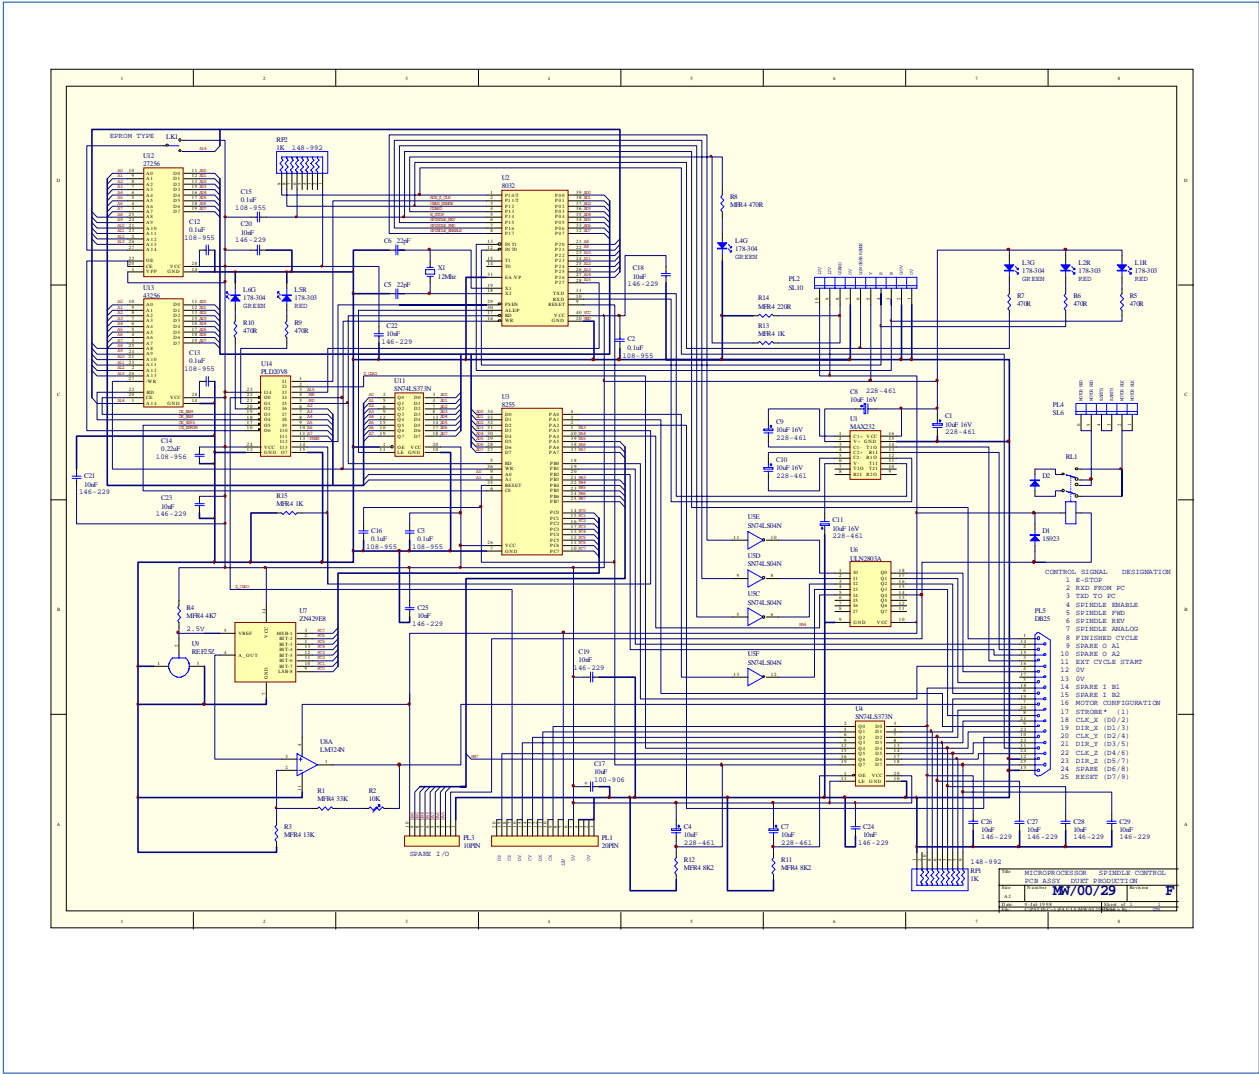

Figure 8.4 Microprocessor PCB
8.4 Microprocessor PCB (Figure 8.4)